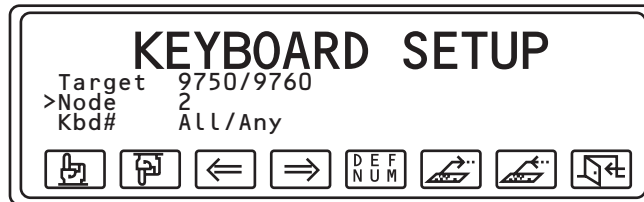

Figure 34. Node Selection
3. Enter a node number between 1-24, if necessary. Figure 34 shows Node 2.